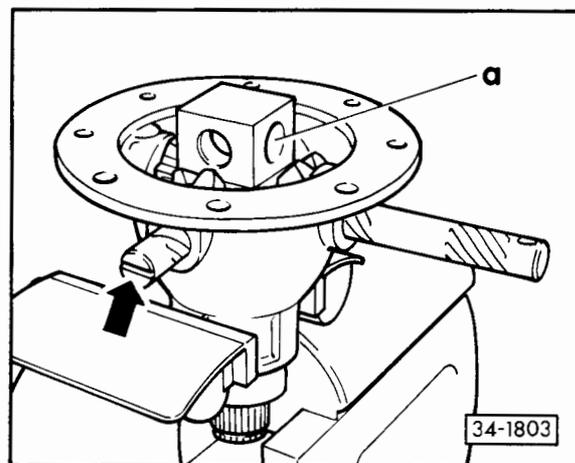

Fig. 8 Installing differential pinion shafts
- Pressing in – Figs. 8 and 9
- Installation position – Fig. 8